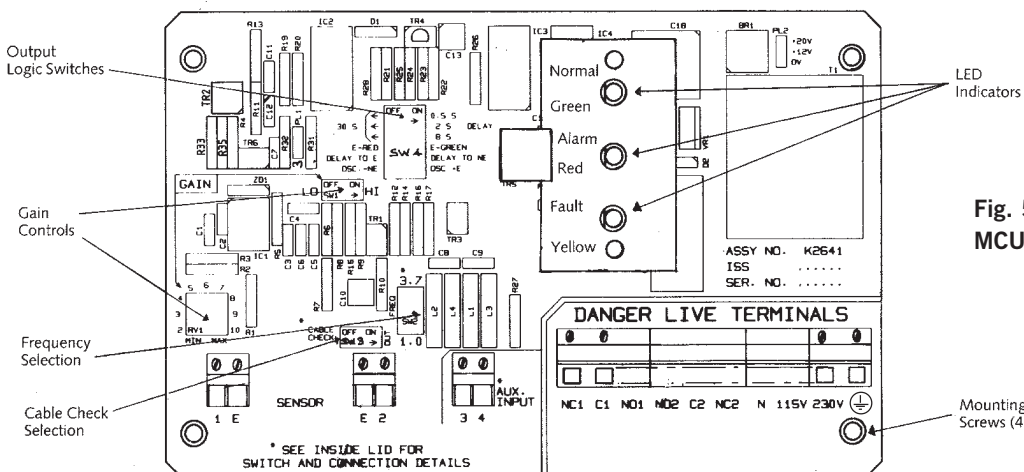
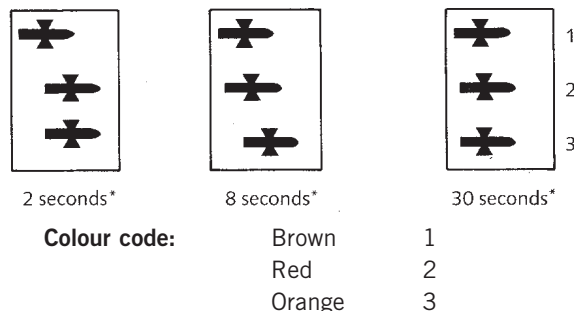

Fig. 5
Fig 8 * Note that these times are approximate only
All cable connections are made to the terminal blocks along the bottom edge of the pcb (see fig.5). Release the terminal screw before inserting the wire.
The output relay of the MCU200 can be latched into the de-energised state. This latch is achieved by short circuiting the two terminals of the Auxiliary input, labelled as terminals 3 & 4 on the pc board (see figure 5). The relay will remain de-energised while the latching short circuit is applied. Only after this circuit is broken can the relay re-energise under the control of the sensor.
- Reduce time delays (see fig 8) to make adjustment easier. Set frequency of operation to 1 MHz (see fig 5) if the sensor will operate at this frequency.
- With sensor or pipe in relatively clean water (supernatant) set gain switch to "LO" and reduce gain pot (see fig 5) until the LED changes. Note this point on the pot as the "zero suspended solids" switch point.